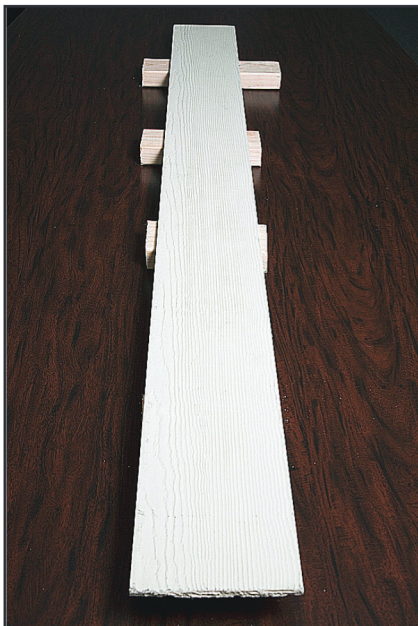

Figure 3
2. Place one piece of concrete board on the wooded blocks, (Fig. 3) the other on the work surface next to it.